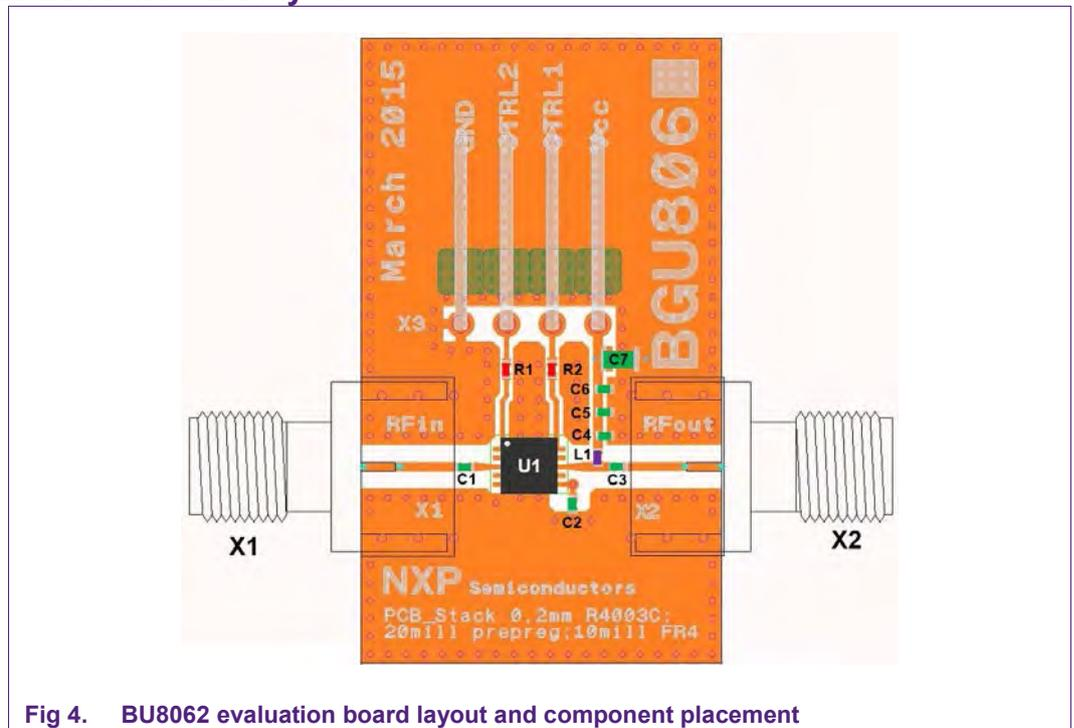

Fig 4. BU8062 evaluation board layout and component placement
- The self-resonance frequency of inductor L1 should be chosen above frequency band of interest for good choking. In this case, the Murata LQG15 series has been used. Proper grounding of the GND pins is also essential for good RF performance. Either connect the GND pins directly to the ground plane or through vias, or do both, which is recommended. The layout and component placement of the BGU8062 evaluation board is given in Fig 4